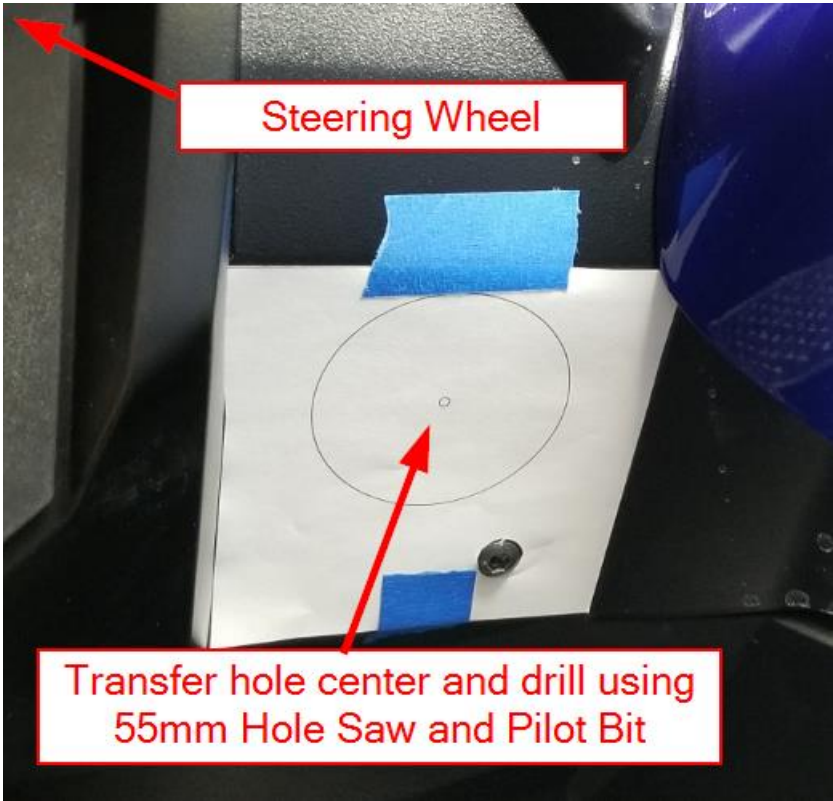

Figure 10
- e. Position the Driver Side Lower Right Vent Template as shown in Figure 10. Transfer the hole center and drill using the 55mm Hole Saw.